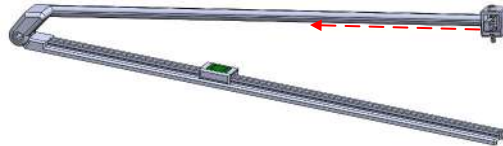

Figure 3-10. Adding SENS093_Slider
4. Slide the SENS093_Slider into the SENS093 Arm as shown in Figure 3-10.